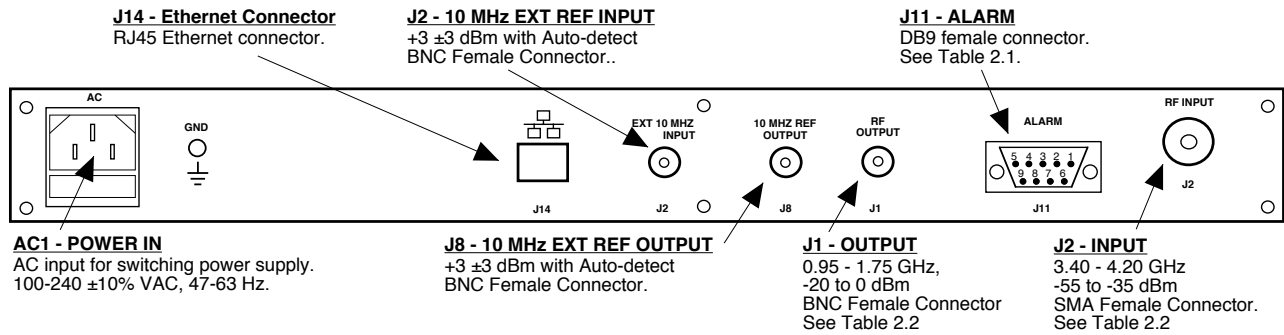

FIGURE 2.1 3116-3442 Rear Panel I/O's
Figure 2.1 shows the input and output connectors on the rear panel.
1. Connect a -55 dBm to -35 dBm signal to RF IN, J2 (Figure 2.1).